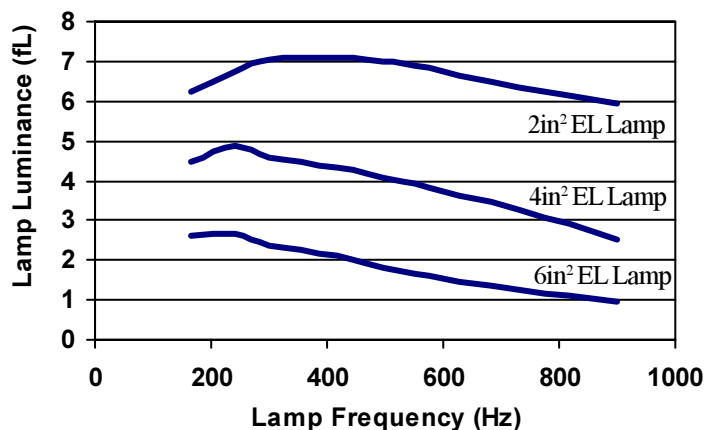

Figure 2: Typical Lamp Luminance vs. Lamp Frequency
The selection of the CLF value can also affect the brightness of the EL lamp because of its control of the lamp frequency (LF). Although input voltage and lamp size can change EL lamp frequency as well, LF mainly depends on the CLF value selected or the frequency of the input clock signal to CLF. The luminance of various sizes of Durel 3 Blue-green EL lamp driven by a D356A at $V^+ = 3.0V$ using the same inductor value is shown in Figure 2 with respect to lamp frequency.